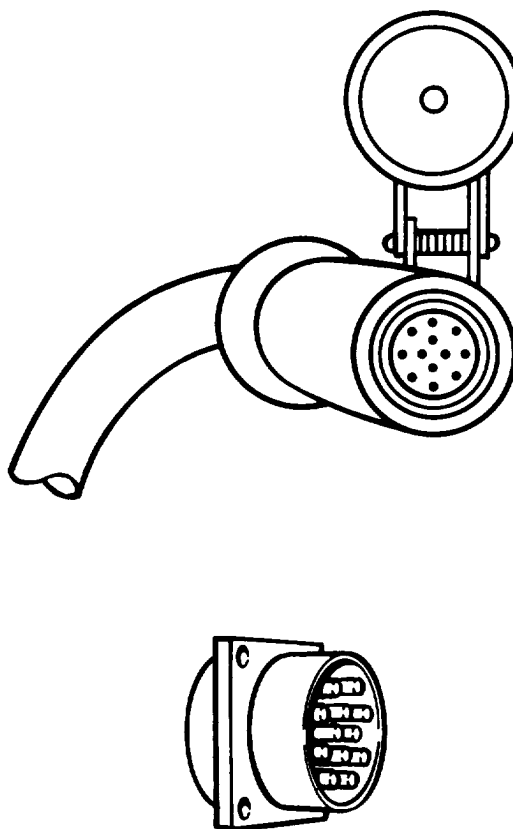

Figure 3-3. Electrical connectors
a. Use a soft cloth to remove any buildup of grease and dirt (figure 3-3).